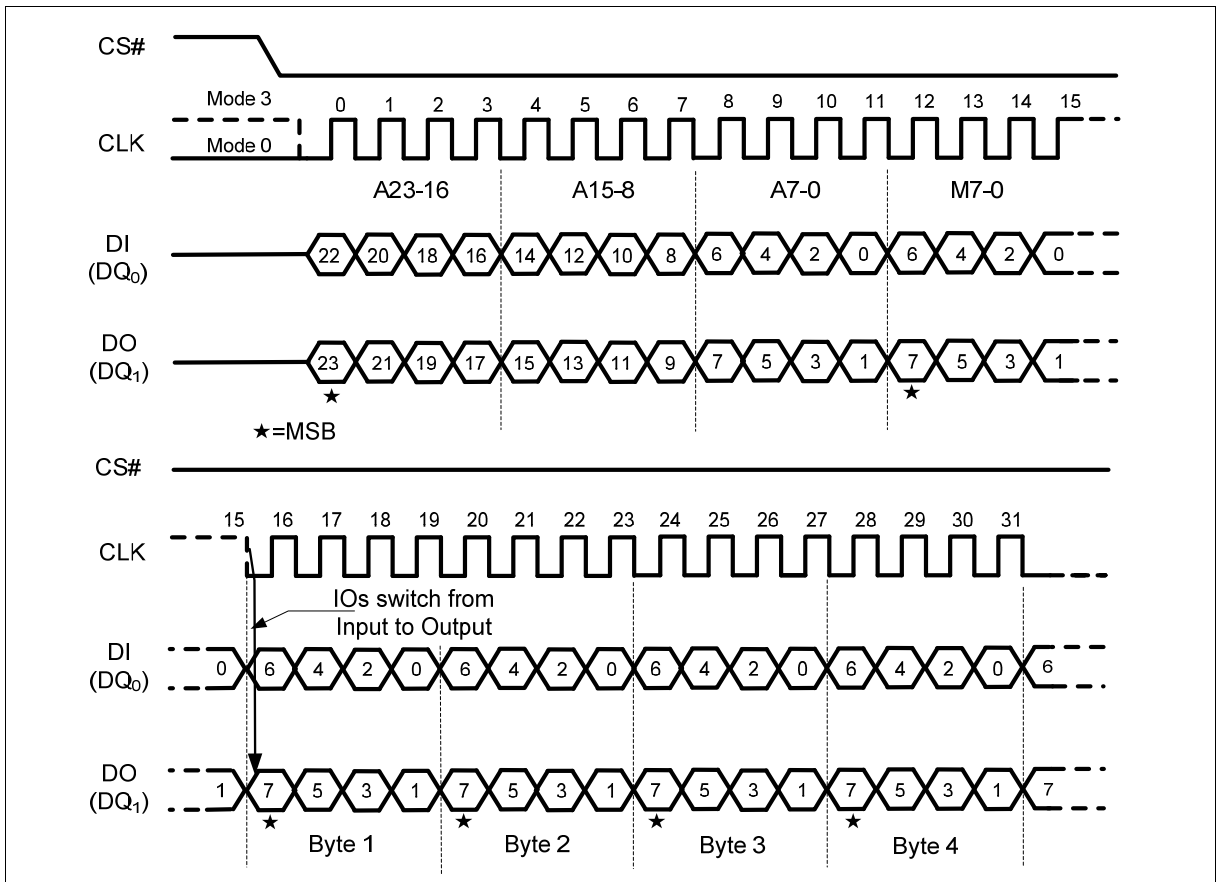

Figure 13 Fast Read Dual I/O Instruction (Previous instruction set M5-4 = 10)
If the “Continuous Read Mode” bits M5-4 = (1,0), then the next Fast Read Dual I/O instruction (after CS# is raised and then lowered) does not require the BBh instruction code, as shown in Figure 13. This reduces the instruction sequence by eight clocks and allows the Read address to be immediately entered after CS# is asserted low. If the “Continuous Read Mode” bits M5-4 do not equal to (10), the next instruction (after CS# is raised and then lowered) requires the first byte instruction code, thus returning to normal operation. It is recommended to input FFFFh on DQ₀ for the next (8 clocks), to ensure M4 = 1 and return the device to normal operation.